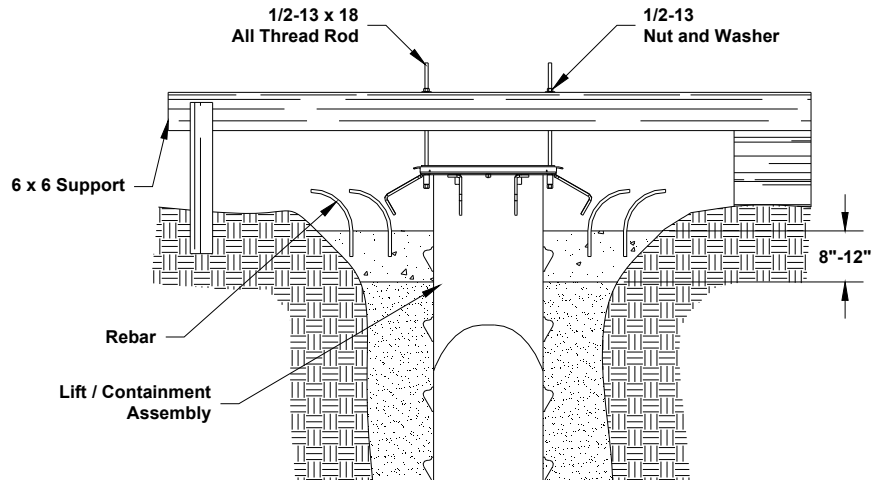

Fig. 6
12. Pour 8" to 12" of concrete around the top of the lift / containment assembly and install rebar to tie in the finished floor as shown in **Fig. 6**.